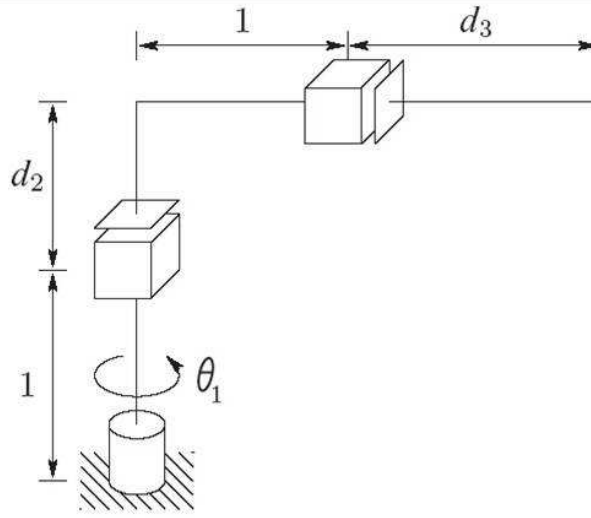

Figure 1: A robot from the problem 2.
- Consider a robot depicted on Fig. 1
- Compute the manipulator Jacobian for representation of linear and angular velocity of the origin of the tool frame, which is located at the end of the second prismatic link of the robot, see Fig. 1 **(10)**